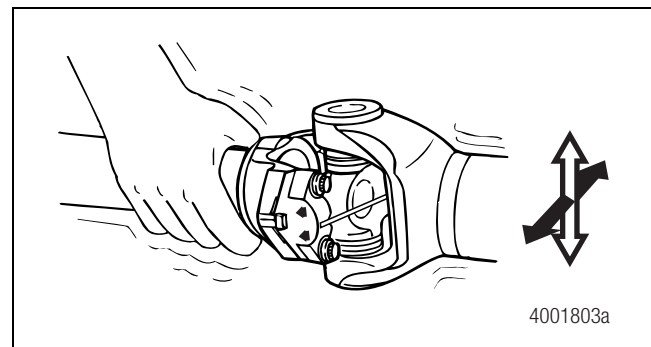
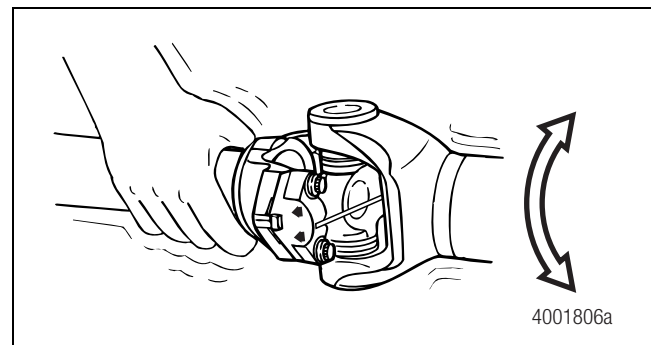

Figure 4.15
Figure 4.16
1. Check the universal joint for end play. Apply force in an UP-AND-DOWN and SIDE-TO-SIDE motion. The universal joint must not move in either direction. Figure 4.15. There should be less than 0.006-inch (0.152 mm) BACK-AND-FORTH motion of the universal joint. Figure 4.16.